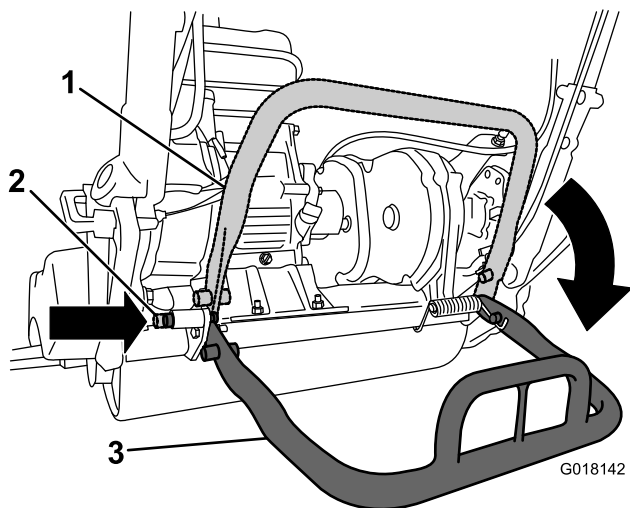

Figure 3
2. Lower the kick stand and push in the locking pin to lock the kick stand in the service position (Figure 3). Allow the machine to rest on the locking pin.